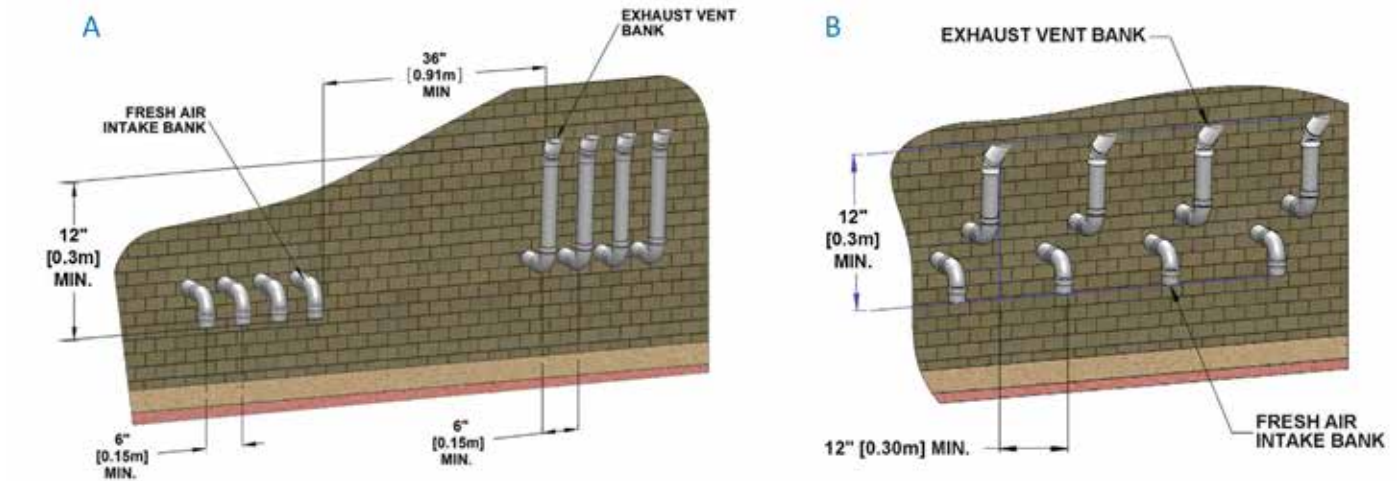

Figure 13: Sidewall vent termination - multiple vent piping configuration
For side venting of multiple boilers, group all intake terminals together with 6" (minimum) lateral spacing, and similarly group the exhaust pipes. Place the 2 groups on the same plane of the building (e.g. north facing wall). Place the 2 groups of pipes at least 3' apart (the closest intake and exhaust pipes shall be 36" - or more – apart. Use same 12" (minimum) vertical separation (See (A) in Figure 13). Alternately, as long as the boilers are identical models - intake and exhaust terminals can maintain a minimum of 12" of separation horizontally from any exhaust or inlet termination of an adjacent boiler (See (B) in Figure 13). For alternate group terminations, contact the IBC Factory for written guidance.